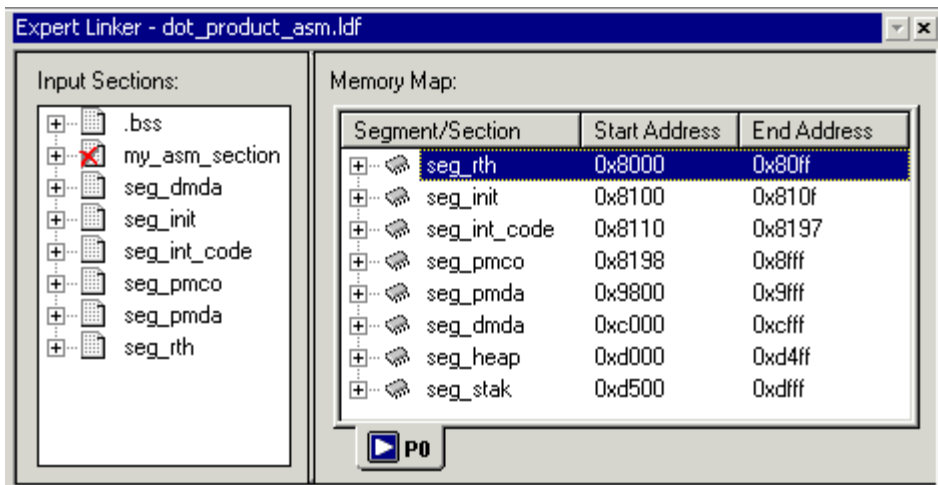

Figure 2-21. Expert Linker Window
4. In the **Project** window, double-click in the `dot_product_asm.ldf` file. The **Expert Linker** window (Figure 2-21) opens with a graphical representation of your file.
Resize the window to expand the view and change the view mode. To display the tree view shown in Figure 2-21, right-click in the right pane, choose **View Mode**, and then choose **Memory Map Tree**.